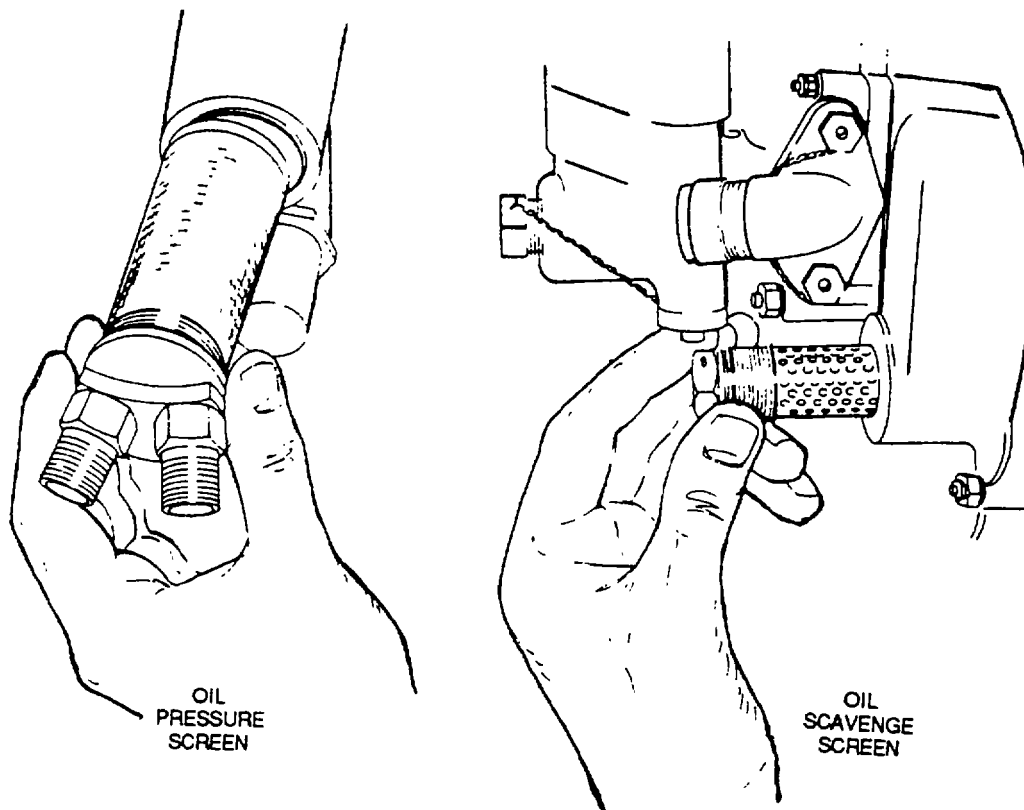

Figure 3-9. Oil Screen Types
d. **Oil Screens.** Oil screens, as shown in figure 3-9, accumulate the sludge during engine operation. These screens must be removed, inspected, cleaned, and reinstalled at regular intervals according to applicable maintenance manuals. General maintenance procedures are covered in the following paragraphs.